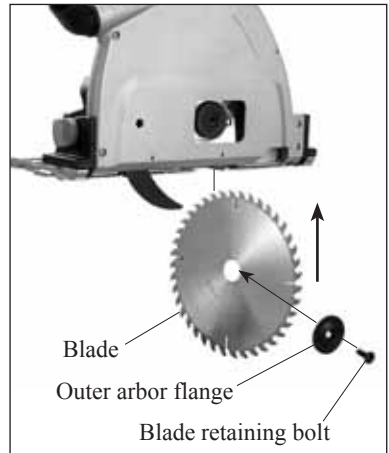

Fig.3
3. Place the outer arbor flange on the arbor with the flat side toward the blade. See fig.3